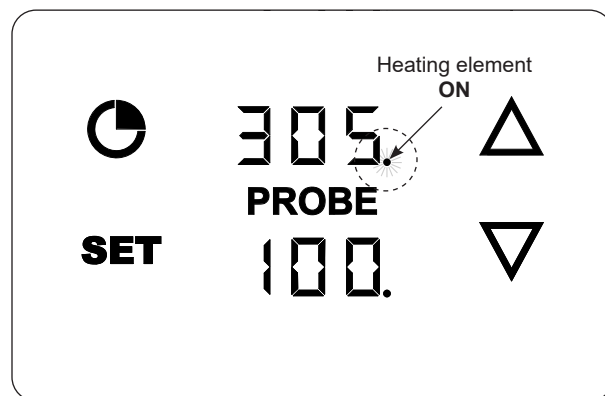

Fig. 39-2 Heating element ON
- The **dot** next to the grilling temp. indicates that the heating element is **on**. The **dot** turns on and off intermittently as the element maintains the set temp. See Fig. 39-2.